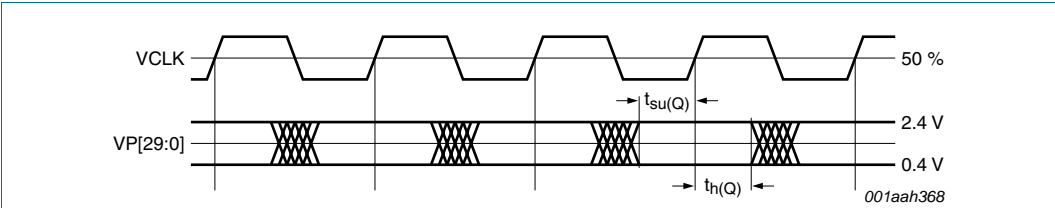

Fig 5. Output timing diagram pin VCLK on pins VP[29:0]
**Timing output: pins VP[29:0];  $f_s = 165\text{ MHz}$ ;  $C_L = 10\text{ pF}$ ; see Figure 5**